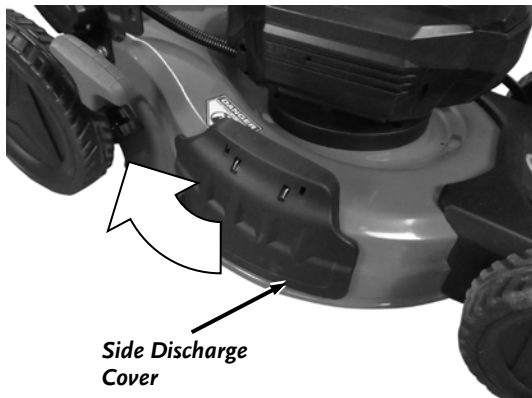

Figure 9
1. Lift the Side Discharge Cover to access the Hinge area (**Figure 9**).